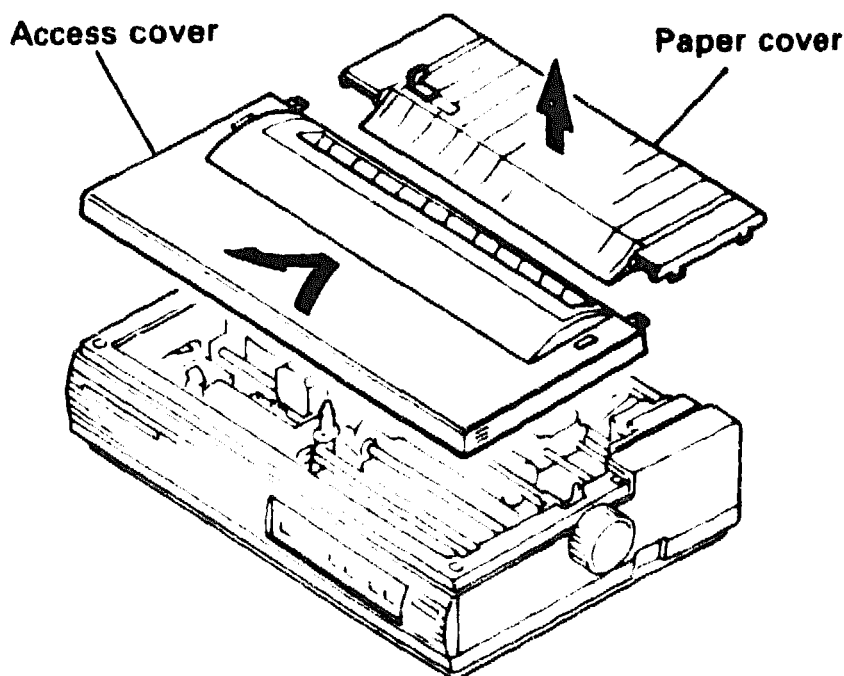

Figure 6-13 Removing the Access Cover and Paper Cover
1. Remove the access cover and the paper cover (Figure 6-13).